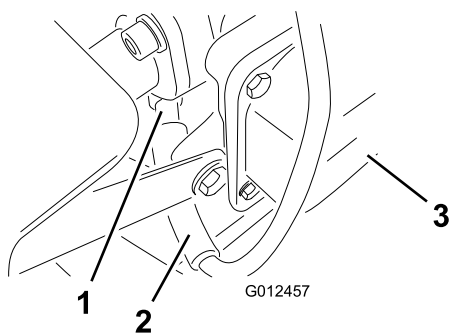

Figure 28
6. Disconnect the wire from the spark plug (Figure 28).
8. Remove the spark plug and the metal washer (Figure 28).
3. Connect the wire to the spark plug (Figure 28).